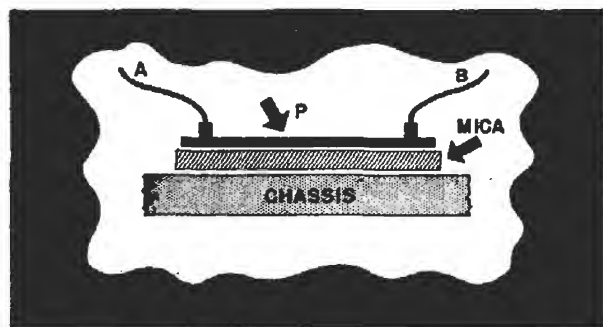

FIG. 31. How a "spark-plate" condenser is made.
► Condensers C_1 and C_2 are called "spark plate" condensers and deserve some special mention. The particular symbol used indicates that one plate of each of these condensers is the receiver chassis. As Fig. 31 shows, the other plate P is insulated from the
► Watch for connections like that in Fig. 31, where wire A ends at the condenser plate and wire B completes the circuit to the succeeding parts. In other words, although wire A ends
Ordinarily we would expect a bypass condenser to be connected as shown in Fig. 32A. Actually, however, there will be a certain amount of inductance in the wire going into the condenser (Fig. 32B). This inductance is therefore between the circuit and the condenser, and limits the effectiveness of the condenser. By bringing the circuit wire up to the condenser and continuing on as in Figs. 31 and 32C, there is no common